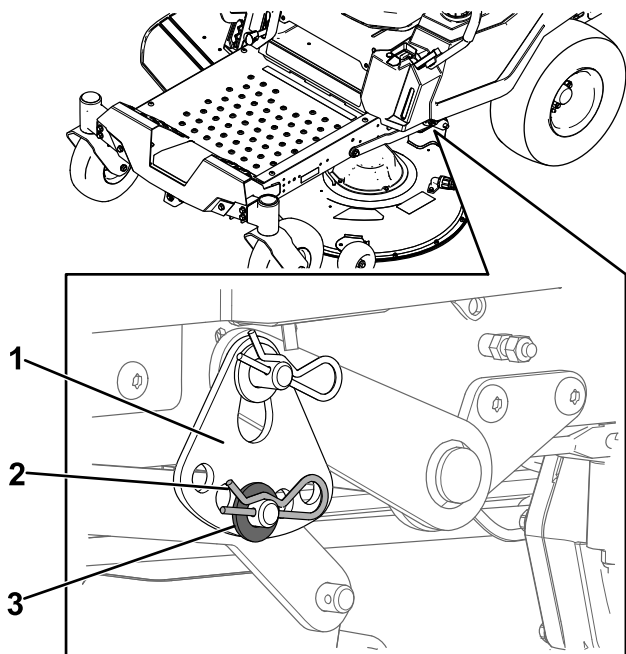

Figure 71
6. Remove the hairpin cotter and washer from the lower lift-arm pin (Figure 71).